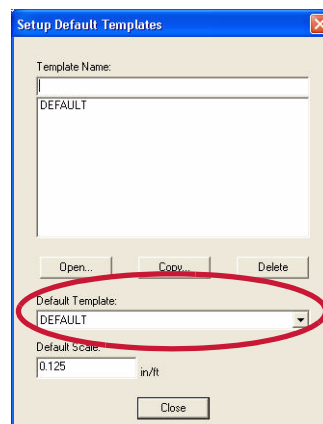

Figure 1–1 The Setup Default Templates dialog box
2. In the **Default Template** area, check that **DEFAULT** is selected, as shown in Figure 1–1.